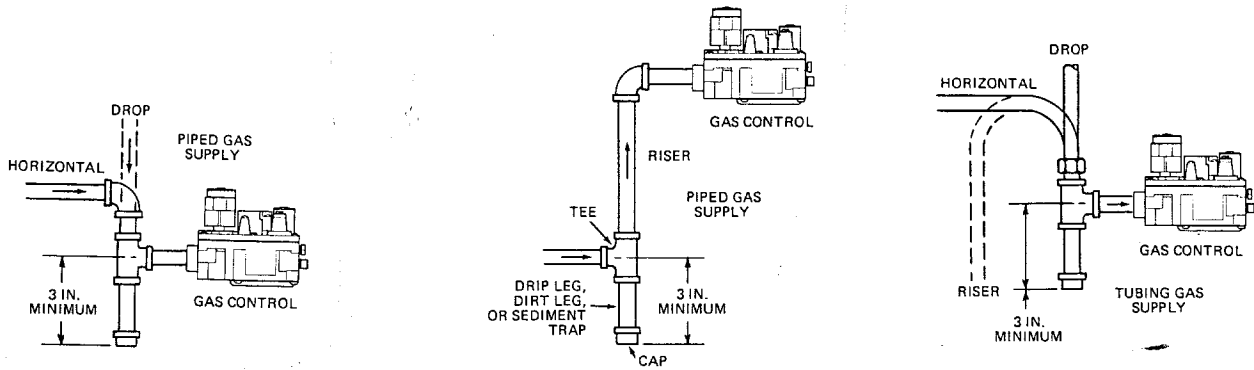

Figure 1. Piping Connections
5. Apply pipe joint compound (pipe dope) or teflon tape that is approved for all gases, only to the male threads of the pipe joints. DO NOT apply compound or teflon tape to the first two threads (see fig. 1 for typical piping connections).